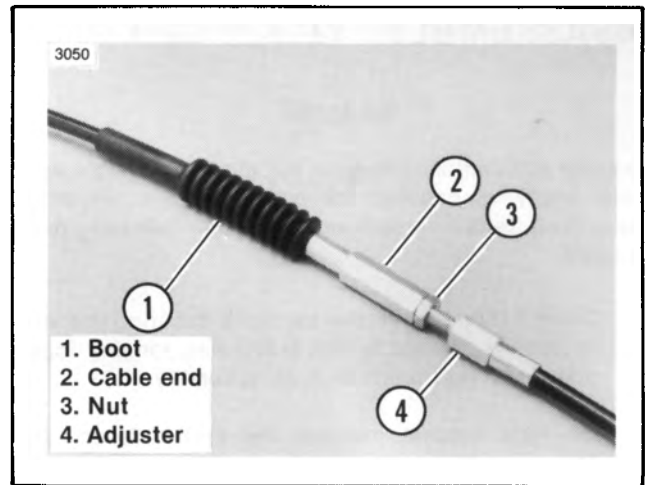

Figure 6-22. Clutch Cable Adjuster — 1987-1989
10. See Figure 6-14. On 1986 vehicles reattach clutch cable and loosen locknut (1). Turn adjusting sleeve (2) to provide 1/8 to 3/16 in. free play at hand lever. See Figures 6-22, 6-23. On 1987-1989 vehicles the adjuster is located midway between the clutch cable ends. Push boot (1) upwards on the cable until the adjuster is exposed. Squeeze clutch hand lever to maximum limit, three times, to set ball and ramp release mechanism. Pull outer cable conduit and at the same time adjust cable adjuster (4) to provide 1/8 to 3/16 in. free play at hand lever. Tighten locknut and return boot over adjuster.